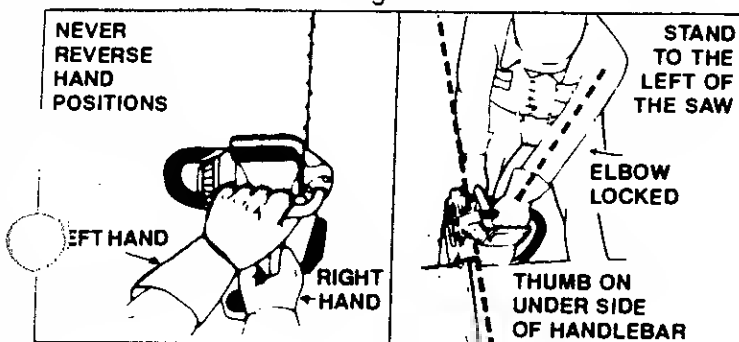

Figure 3
1. Keep a good firm grip on the saw with both hands when the engine is running and don't let go. Figure 3. A firm grip can neutralize kickback and help you maintain control of the saw. Keep the fingers of your left hand encircling and your left thumb under the front handlebar. Keep your right hand completely around the rear handle *whether you are right handed or left handed*. Keep your left arm straight with the elbow locked.
2. Position your left hand on the front handlebar so it is in a straight line with your right hand on the rear handle when making bucking cuts. Figure 3. Never reverse right and left hand positions for any type of cutting.
4. Stand slightly to the left side of the saw, to keep your body from being in a direct line with the cutting chain. Figure 3.